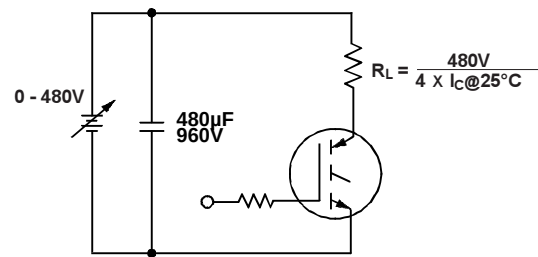

Fig. 13b - Pulsed Collector Current Test Circuit
- ① Repetitive rating; $V_{GE} = 20V$, pulse width limited by max. junction temperature. (See fig. 13b)
- ② $V_{CC} = 80\%(V_{CES})$, $V_{GE} = 20V$, $L = TBD \mu H$,